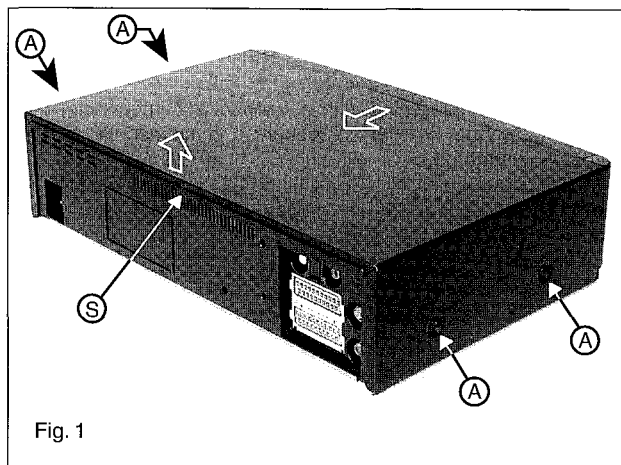

Fig. 1
1. Housing cover (Fig. 1)
- Remove the four screws (A)
- Push catch (S) inwards, lifting lid at the same time to move out of groove